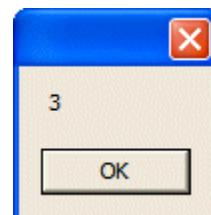

Figure 8-19. Displaying the fourth argument.
- 12) Click the **OK** button to dismiss this *MsgBox()*. The script now displays the fourth argument as illustrated in Figure 8-19.